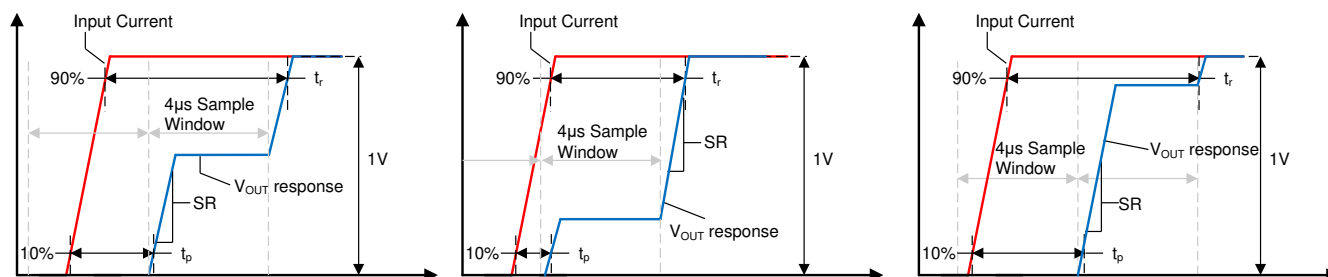

图 8-3. Small Current Input Step Transient Response
Slew rate (SR) is defined as the  $V_{OUT}$  rate of change for a single integration step's output transition, as shown in 图 8-3. Because the device often requires two sampling windows to reach a full 90% settling of its final value, this slew rate is not equal to the 10%-90% transition time for the full output swing.
Propagation delay is the time period between the input current waveform reaching 10% of its final value and  $V_{OUT}$  reaching 10% of its final value. This propagation delay is heavily dependent upon the alignment of the input current step and the sampling period of the TMCS1107-Q1, as shown for several different sampling window cases in 图 8-3.
Response time is the time period between the input current reaching 90% of its final value and the output reaching 90% of its final value, for an input current step sufficient to cause a 1-V transition on the output. 图 8-3 shows the response time of the TMCS1107-Q1 under three different time cases. Unless a step input occurs directly during the beginning of one sampling window the response time will include two sampling intervals.